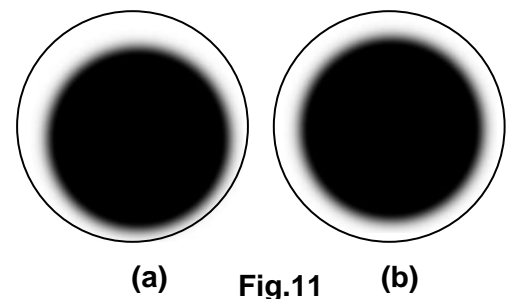

Fig.11
- Turn the condenser focus knob to lower the condenser till a dark spot showed in the viewing field as shown in **Fig. 11 (a)**.
- Turn the condenser translational centering screws to move the dark spot to the center as shown in **Fig. 11 (b)**.